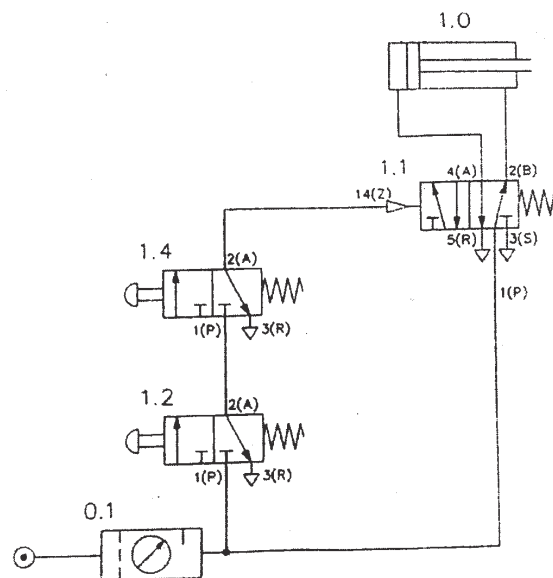

Figure 8b
b) Label the components and analyze the circuit shown in Figure 8b. [6]